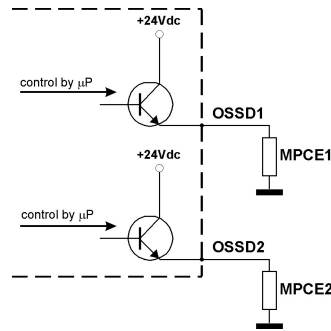
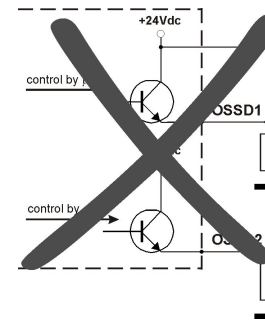

Fig. 14
Fig. 15
- Under no circumstances should safety outputs OSSD1 and OSSD2 be wired in series or in parallel (Fig. 15, 16, 17); both must be used separately, as shown in Fig. 14. Should one of these two configurations be used in error, a malfunction will occur (see Ch. 7, "Diagnostic function").